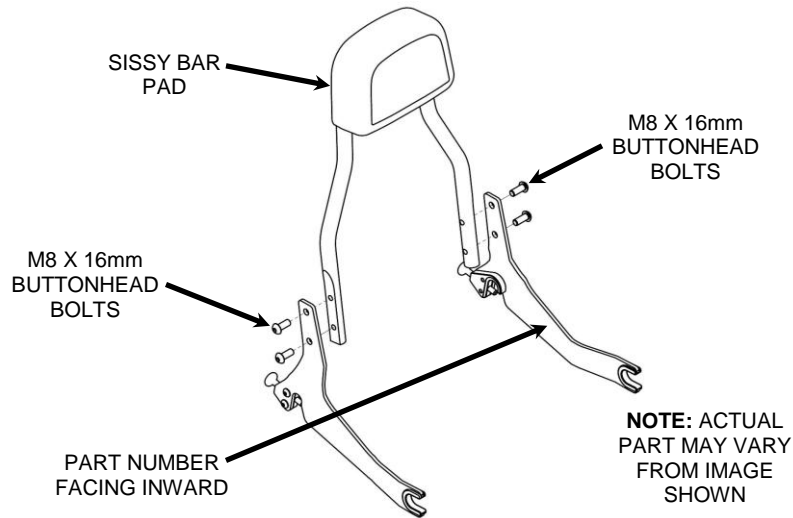

FIGURE 4
12. Install the supplied side plates on to the sissy bar with the four M8 X 16mm button head bolts. Make sure the u-shaped grommets are facing the same direction as the sissy bar pad and the part numbers are facing inward. See **FIGURE 4**. Snug the bolts but **DO NOT TIGHTEN** at this time.